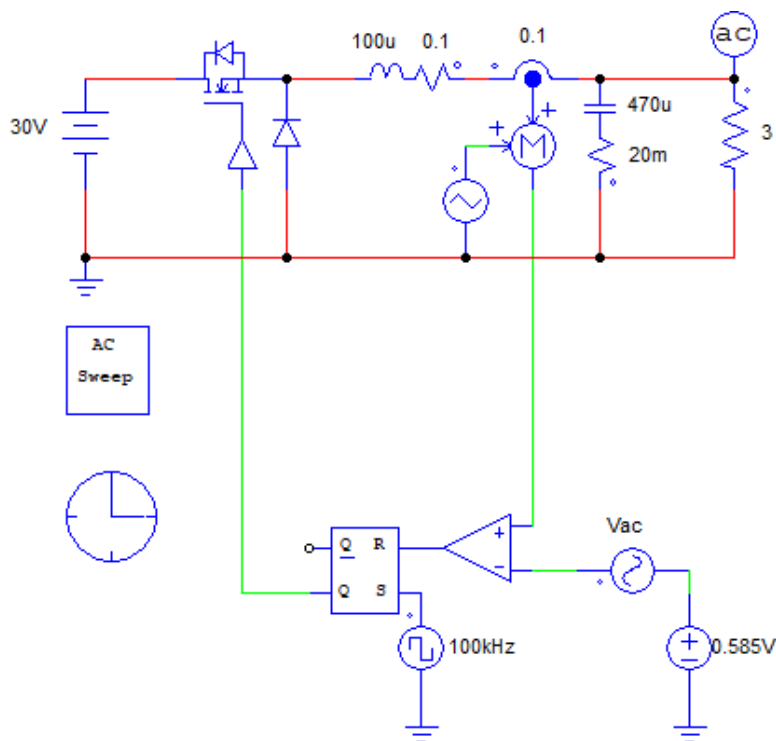
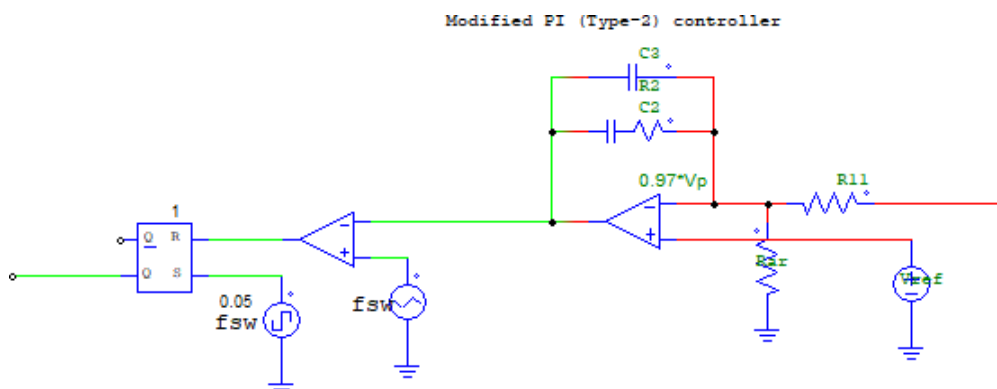
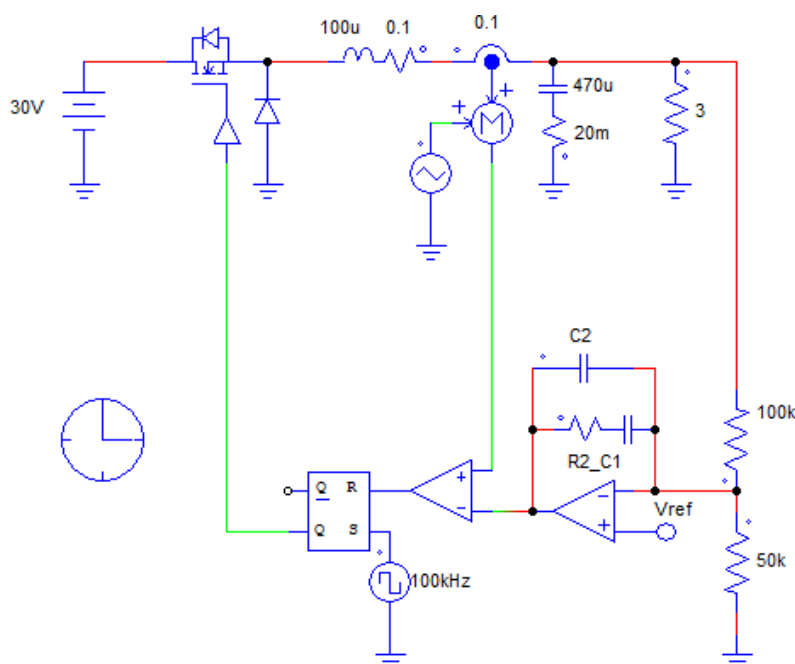

Figure 1: Psim schematic for creating an AC sweep
Figure 16: SmartCtrl exported control stage
Figure 17: Psim schematic with SmartCtrl control stage connected
1. To obtain the AC response of a plant, an AC sweep has been done using PSIM. The PSIM required schematic is shown in Figure 1. It includes the compensating ramp that avoids the sub-harmonic oscillation.
In this tutorial, the components of the regulator have been exported to a PSIM schematic with the original plant shown Figure 1. The control stage exported by SmartCtrl is shown in Figure 16.
This stage can be easily modified so it can be successfully integrates with the initial plant of Figure 1. See Figure 17.